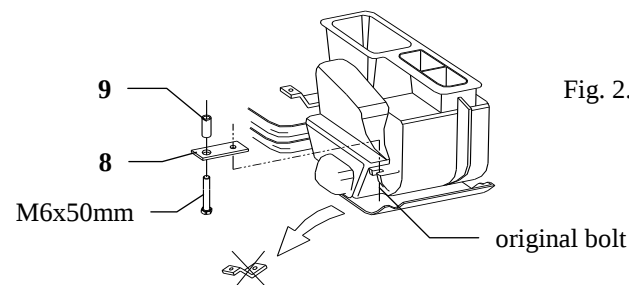

Fig. 2. Filter installation
2. In long version with air-conditioning disassemble a filter (fig. 2).
4. Between mounted angle bar put main bar of the towing hitch (pos. 1) and fix by bolts M12x40mm (pos. 11) and:
- **long body version** – put bend fish-plates (pos. 6 and 7) and fix all using bolts M12x110mm (pos. 10) and M10x45mm (pos. 13)
- **short body version**- through holes B fix main bar to the chassis members by bolts M12x110mm (one each side, bend fish-plates pos. 6 and 7 not used)
5. Fix body of the automat and place tow-ball according to supplied instruction. Note! Remember to place socket plate (pos. 3) as shown on the drawing 1.
6. In long version with air-conditioning reassemble a filter (see fig. 2).